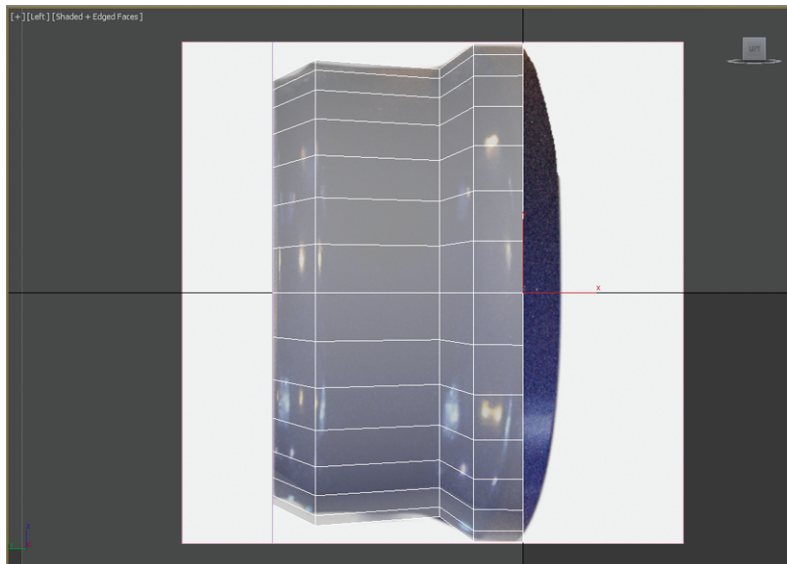

FIGURE 2.8 Edges are scaled to match the image plane.
15. Repeat steps 10 through 12 on the other new edge loops until the cylinder matches Figure 2.8. Don't worry if it doesn't match up perfectly with the image.